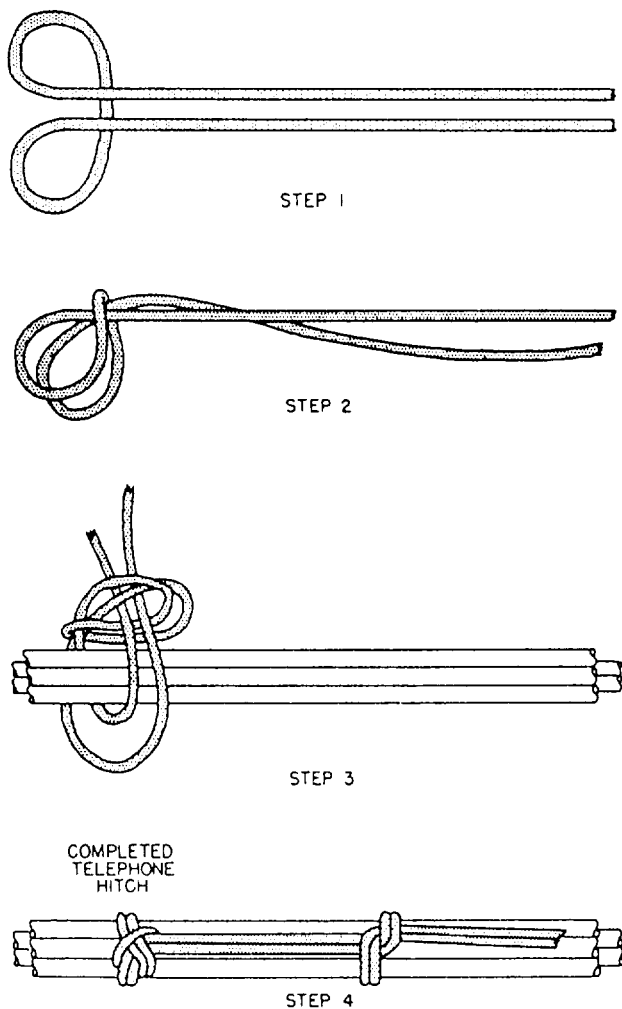

Figure 2-59.—Starting double lace with the telephone hitch.
**DOUBLE LACE.**— Double lace is applied in a manner similar to single lace. However, it is started with the telephone hitch and is double throughout the length of the lacing (fig. 2-59). You can terminate double, as well as single, lace by forming a loop from a separate length of cord and using it to pull the end